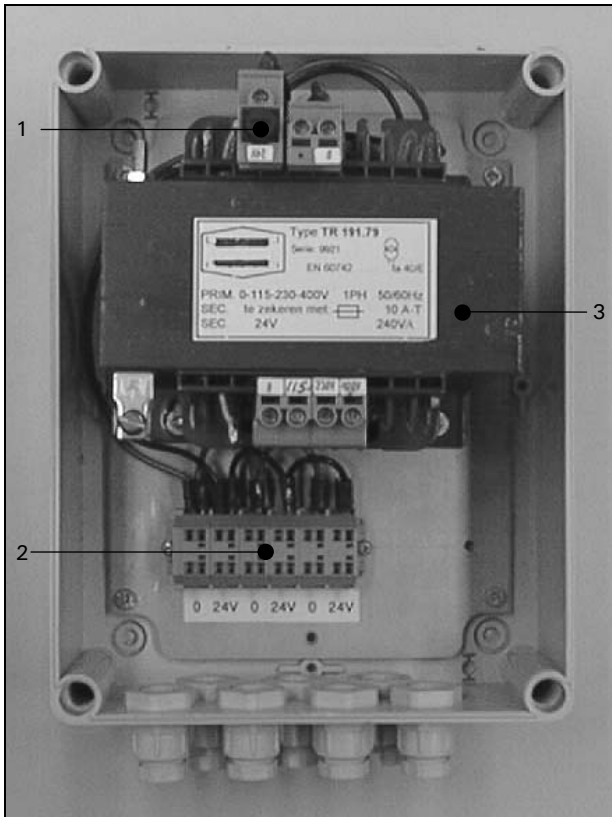

fig. 5
- Feed the supply cable through the grommet (A) and connect it in accordance with the supplied electric diagram (see fig. 5).
- Feed the supply cable (NCW 11) through the grommet and connect the cable to the connecting block (B) (see fig. 5).